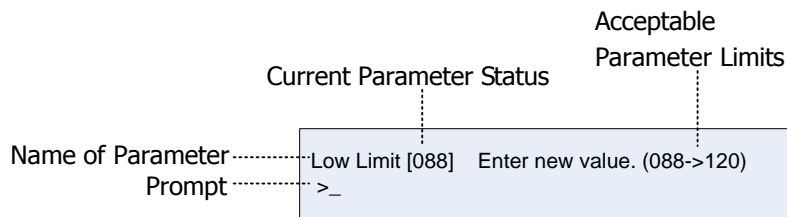

Figure 22: Parameter Change Screen (Slow Detect Low Limit Screen Shown)
Step 2: When Parameter Change Screen appears (Figure 22), type the new value within acceptable range and press Enter. The screen will return to the Line Slow Detection Screen. For example: